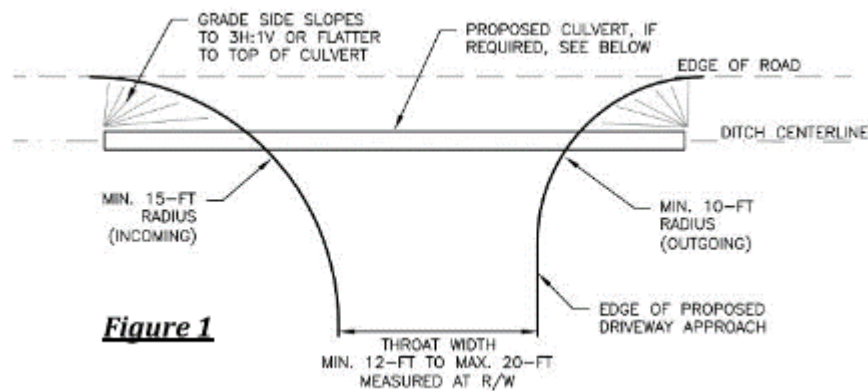

Figure 1
1. At a minimum, the driveway approach shall meet the dimensions in **Figure 1**